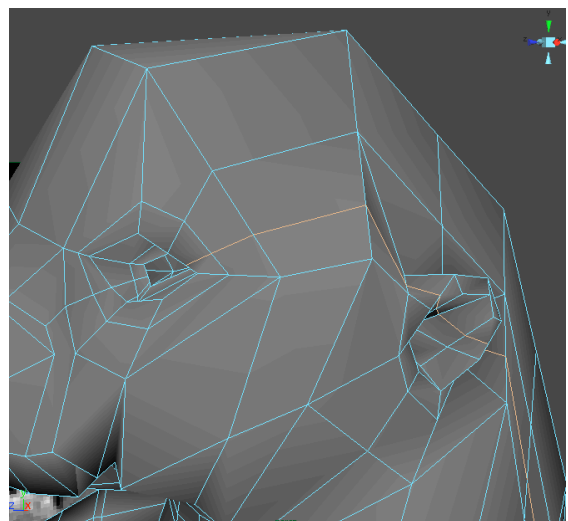

Figure 57: Another edge loop is inserted.
6. Add another edge loop that starts at the back of the eye and moves through the ear, all the way down and through the tail as in figure 57.